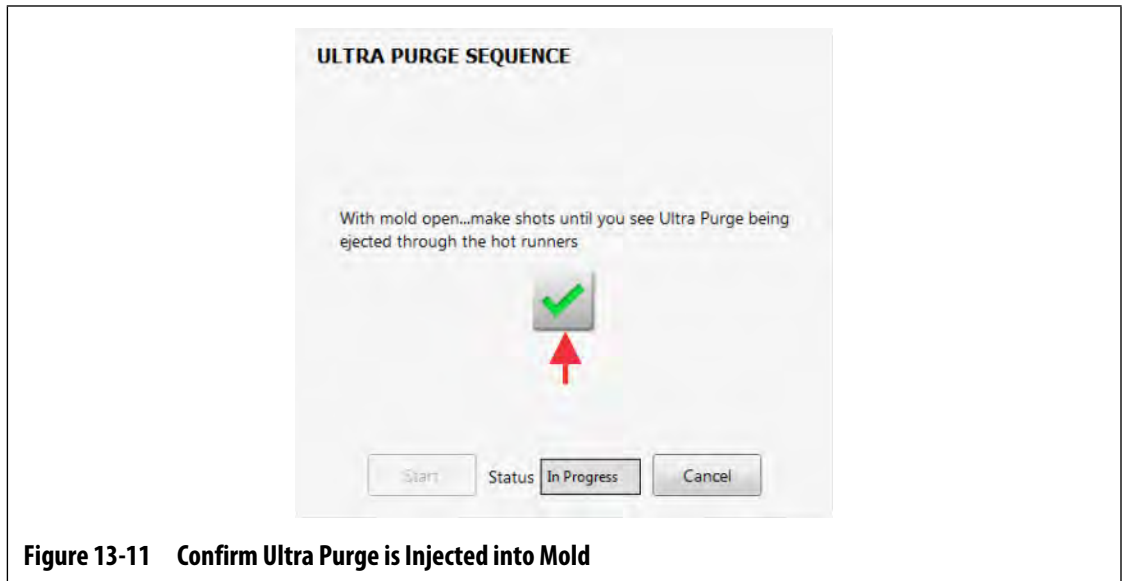

Figure 13-11 Confirm Ultra Purge is Injected into Mold
14. Touch the green check mark to confirm that the compound comes out of the hot runners (Figure 13-11).